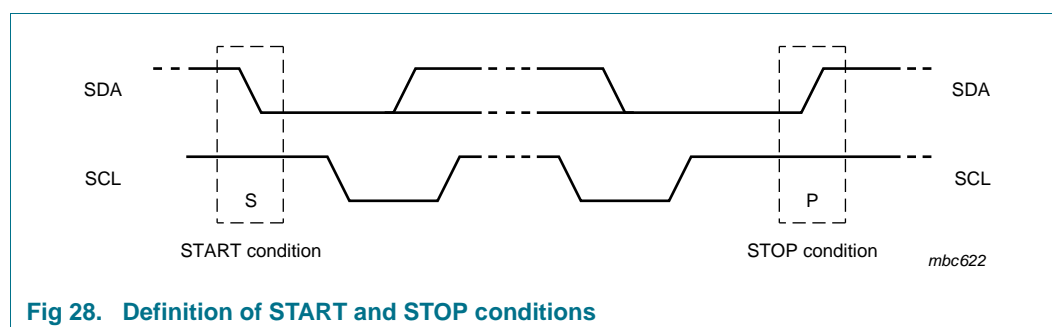

Fig 28. Definition of START and STOP conditions
Both data and clock lines remain HIGH when the bus is not busy. A HIGH-to-LOW transition of the data line, while the clock is HIGH, is defined as the START condition (S). A LOW-to-HIGH transition of the data line, while the clock is HIGH, is defined as the STOP condition (P) (see Figure 28).